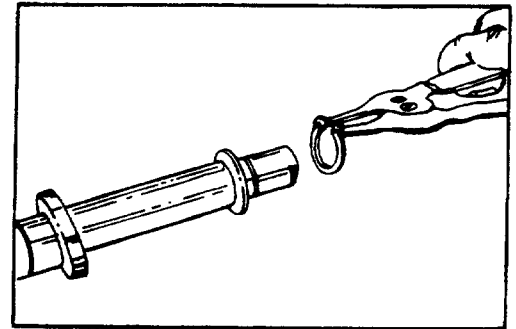

FIGURE 49.
5. Install retaining ring (34) onto input shaft/wheel tube (33) using the appropriate external retaining ring pliers. See figure 49.